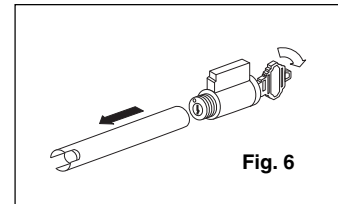
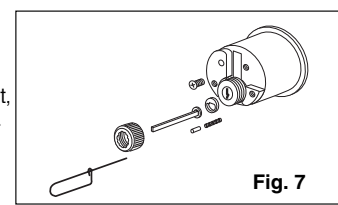

Fig. 6
Fig. 7
- Once cylinder plug is completely inserted, align pins by turning cylinder plug 1/8 of a turn to an upright (or vertical) position. (Fig. 6) Place spring, pin and tailpiece in cylinder and rescrew cap. Replace cylinder housing in lock assembly. Test and remove key. (Fig. 7)
1. To avoid pin spill, make sure cylinder plug is turned approximately 1/8 turn to the left or right so that cylinder pins, top pins and slot in follower do not align. Slowly push cylinder plug into place (Fig.6). **Note: keep consistent pressure against plug follower while sliding cylinder plug back into cylinder housing.**